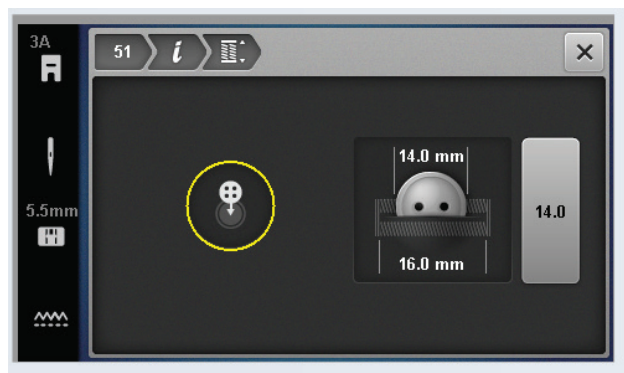

Fig. 20: B 335 Display Screen
4. Hold a button up to the measuring circle on the screen (Fig. 20). Then, turn the Multi-function Knob (with the B 3 Series, press the Stitch Width button) until the on-screen circle matches the button in size.